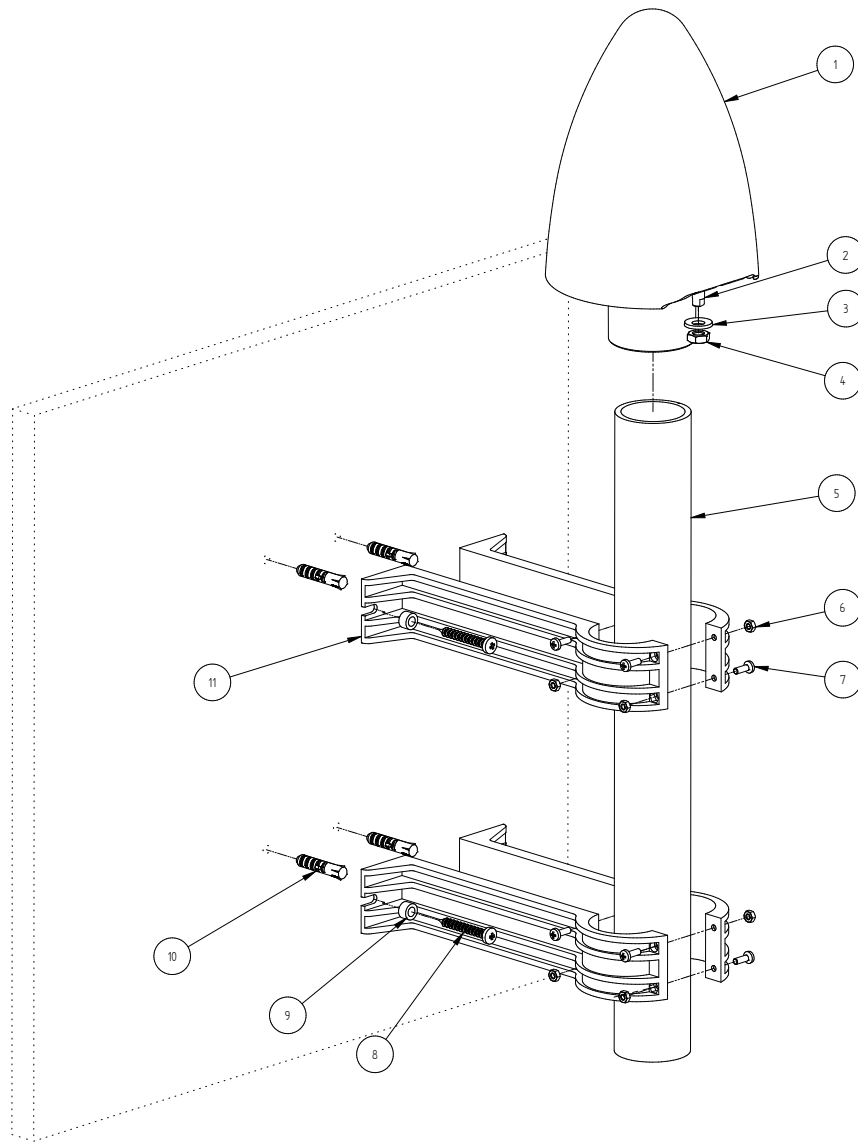

Figure 8.5: Mounting a GPSANTv2 antenna onto a wall
■ Fig. 8.5 illustrates the installation of a Meinberg GPSANTv2 antenna on a wall.
1. Insert the antenna tube (Item 5 in ■ Fig. 8.5) into the designated rounded recesses of the two pairs of antenna tube clamp halves (Item 11). Secure the tube inside each of the two clamps (Item 11) using four M4x12 Phillips screws (Item 7) and corresponding M4 hex nuts (Item 6). To ensure that the tube (Item 5) is as secure as possible, the top and bottom M4x12 screws (Item 7) of each tube clamp should be inserted from opposing directions as shown in ■ Fig. 8.5.